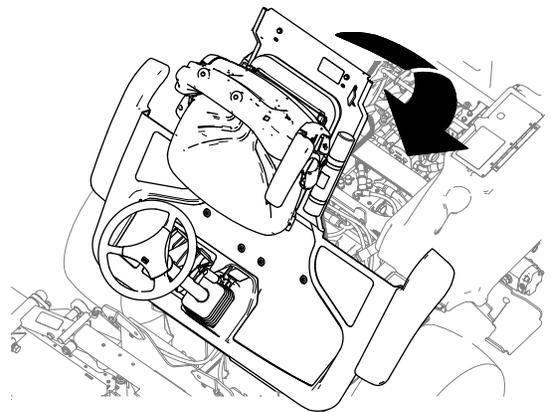

Figure 50
1. Lower the platform carefully (Figure 50).